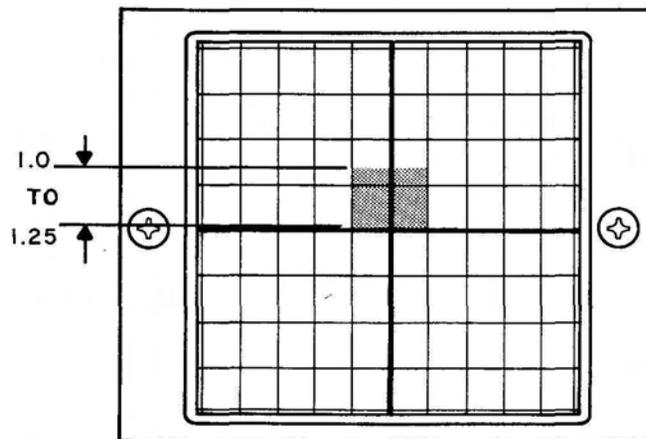

Figure 3-18 Amplitude Of 2 kHz FM Deviated Signal Shown Between 1.0 And 1.25 Graticule Divisions In Height
12. Rotate BFO-RF LEVEL Control (7) fully ccw.
13. Rotate DEV-VERT Control (33) to "1 V/DIV", HI LVL/ μ V X 100/ NORM Switch (3) to "HI LVL", and adjust BFO-RF LEVEL Control (7) cw until 0 dBm Lamp (2) illuminates. Verify that the display is between 1.0 and 1.25 graticule divisions in height on CRT Display (36).
14. Adjust HORIZ Control (38) and VERT Control (40) to center display over major horizontal axis, to facilitate measurement of displayed signal (see Figure 3-18).